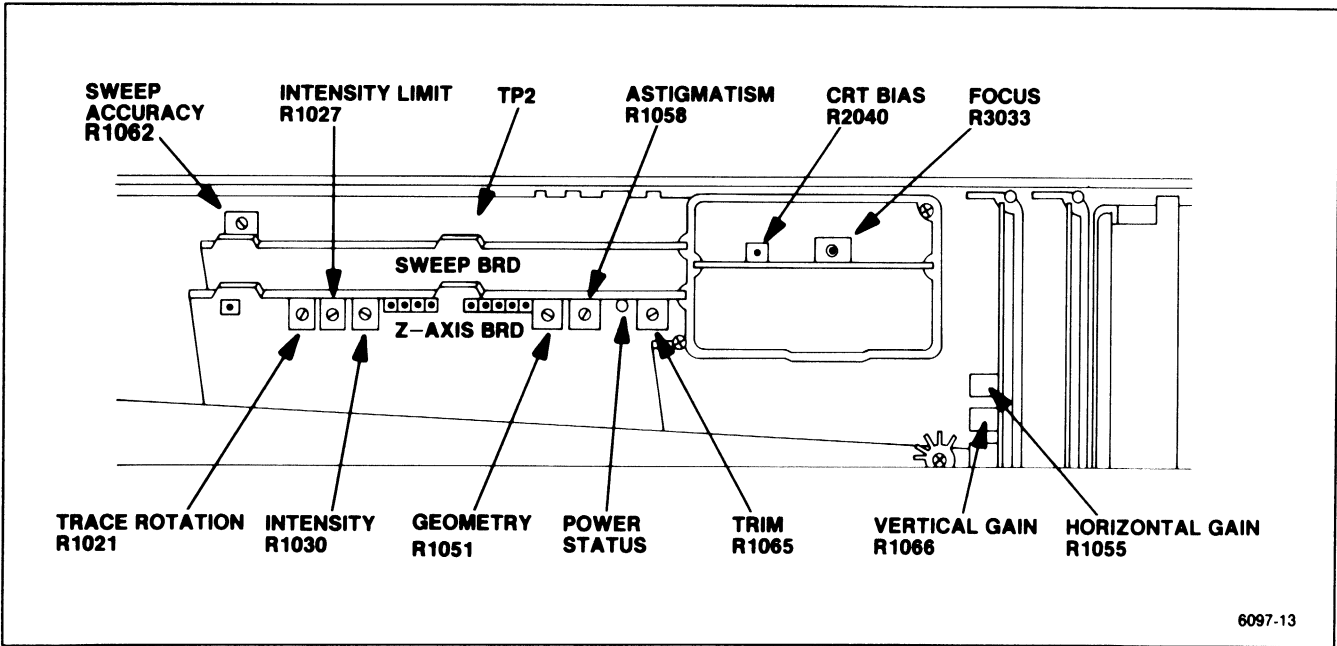
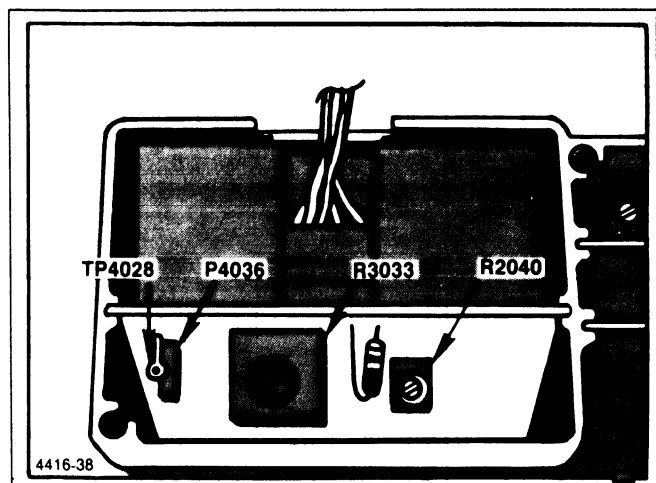

Figure 5-2. Crt display adjustment and test point locations.
Figure 5-3. Adjustment and test point locations on High Voltage module.
b. Remove the cover over the Z-Axis and Sweep boards. Set the Intensity Limit R1027, on the Z-Axis board (Figure 5-2) fully counterclockwise and Crt Bias R2040, on the High Voltage board (Figure 5-3) fully clockwise.
- (2) Turn the INTENSITY clockwise until a crt beam dot appears on screen.
- (3) Focus the dot by adjusting R3033 on the High Voltage board (Figure 5-3) for the smallest round dot.
(4) Set the INTENSITY for a collector voltage 5.5 V higher than the voltage noted in part d, subpart 1.
(5) Use the non-metallic screwdriver to adjust Crt Bias, R2040, counterclockwise until the crt beam is visible, then clockwise until the beam dot just extinguishes, with the screen shaded. (If no dot appears, with the adjustment fully counterclockwise, this will be the bias setting.)
(6) Turn the INTENSITY clockwise until a dot is visible then defocus the dot with the Focus adjustment, R3033. Adjust Astigmatism R1058 (Figure 5-2) for a round dot then refocus with R3033 for the smallest and sharpest dot.
(7) Turn the INTENSITY counterclockwise until the dot just disappears, and again measure the collector voltage at Q4058 or Q4059. Voltage should equal or exceed that set in part d, subpart 4. If the voltage is less, repeat the procedure for setting Crt bias.
- (1) Switch POWER off, then remove P4036 (Figure 5-3) on the High Voltage board. Turn INTENSITY fully clockwise, MANUAL SCAN fully counterclockwise, and ensure that the TIME/DIV is in the MNL position. Set the Intensity Limit R1027, on the Z-Axis board, (Figure 5-2) fully clockwise.
- (2) Connect the voltmeter between TP4028 (Figure 5-3) and the ground lug on the crt shield.
- (3) Switch POWER back on. After the instrument initializes, activate 2 dB/DIV and switch Digital Storage off.
(4) Adjust Intensity Limit R1027 (Figure 5-2) for a voltage reading of 0.9 V at TP4028.
(5) Switch POWER off and re-install the jumper P4036 on the High Voltage board. Turn POWER on and adjust the INTENSITY for normal viewing.
g. Activate ZERO SPAN and adjust REFERENCE LEVEL until the trace is approximately mid-screen; then adjust the Trace Rotation R1021 (Figure 5-2) so the trace is aligned with the graticule lines.
h. Activate VIEW A and VIEW B then use the PEAK/AVERAGE cursor, positioned at the top then bottom of the screen, as a reference line to adjust Geometry R1051 (Figure 5-2) for the straightest trace at top and bottom of the screen.
j. Adjust Intensity R1030 (Figure 5-2) so the brightness of the readout characters is slightly higher than the trace. Readout characters should be just visible after the trace has disappeared. This ratio provides the
c. Adjust Vert Gain, R1066 (Figure 5-2) for a full screen display.
e. Set TIME/DIV to MNL. Monitor TP2 on the Sweep board (Figure 5-2) with a voltmeter (Digital Multimeter). Set the MANUAL SCAN control for 0.0 V reading on the voltmeter (TP2). Set the horizontal POSITION control to center the CRT beam (dot).
g. Adjust Horiz Gain, R1055 (Figure 5-2) to position the crt beam to the right graticule edge (10th graticule line).